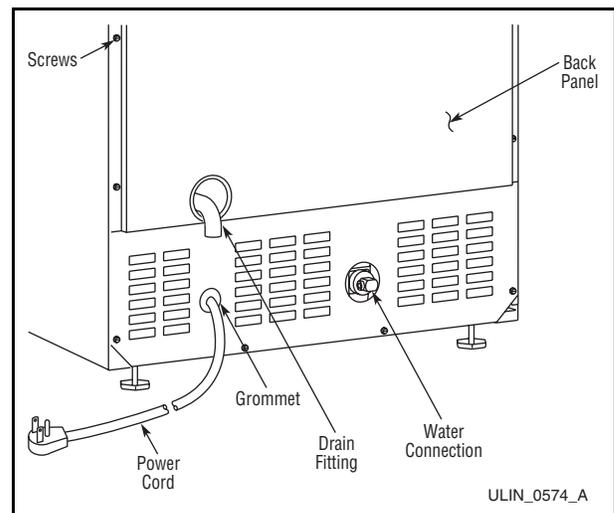

Figure 35
2. Carefully push the power cord grommet through the hole in the back panel (see **Figure 35**, CLRCO2175 shown).